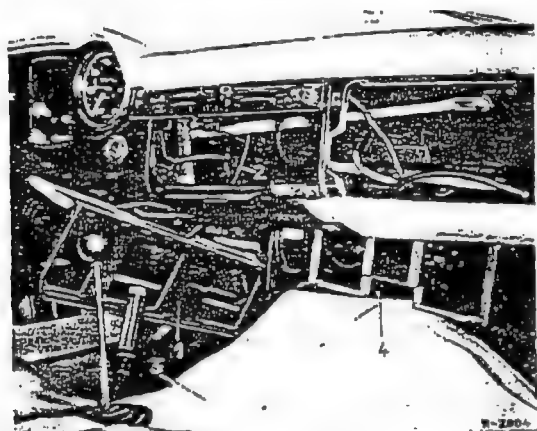

Fig. 83-2/12
1. Remove the distribution box (1) (see Section B, paras 1 to 5). Do not detach the control cable (2) but suspend the distribution box from the control cable and move it toward the left (Fig. 83-2/12).